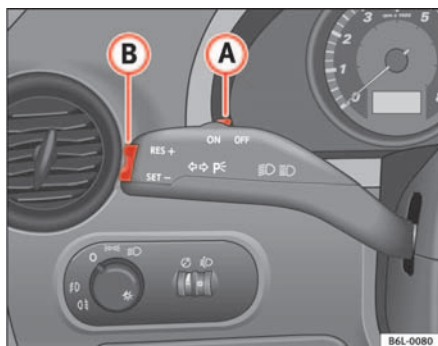

Fig. 107 Turn signal and main beam lever: switch and rocker switch for CCS
- Press the upper part **RES** of the rocker switch ⇒ fig. 107 **(B)** to increase the speed. The vehicle will continue to accelerate for as long as you keep the rocker switch pressed. When you release the switch, the new speed is stored.
Control of the set speed is switched off if you reduce speed by depressing the brake pedal. Reactivate the control by pressing once on the upper part of the rocker switch **RES+** ⇒ fig. 107 **(B)**.